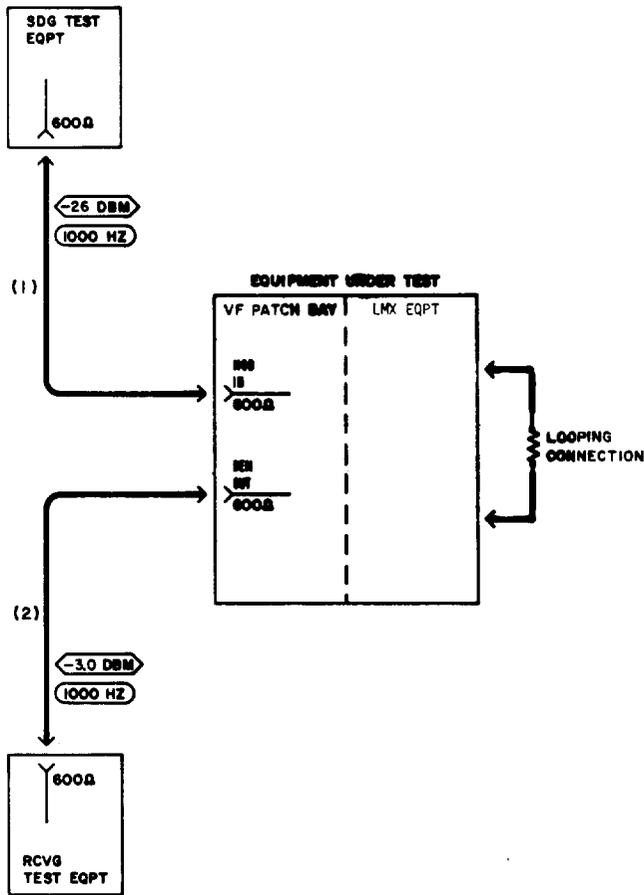

Fig. 8—Patching Diagram—Preparation
- 5 Connect the STE to the MOD IN jack for Channel 1 of the channel bank under test [patch (1), Fig. 8].
- 6 Connect the RTE to the DEM OUT jack for the channel under test [patch (2), Fig. 8].
- 8 Remove patches (1) and (2), Fig. 8.